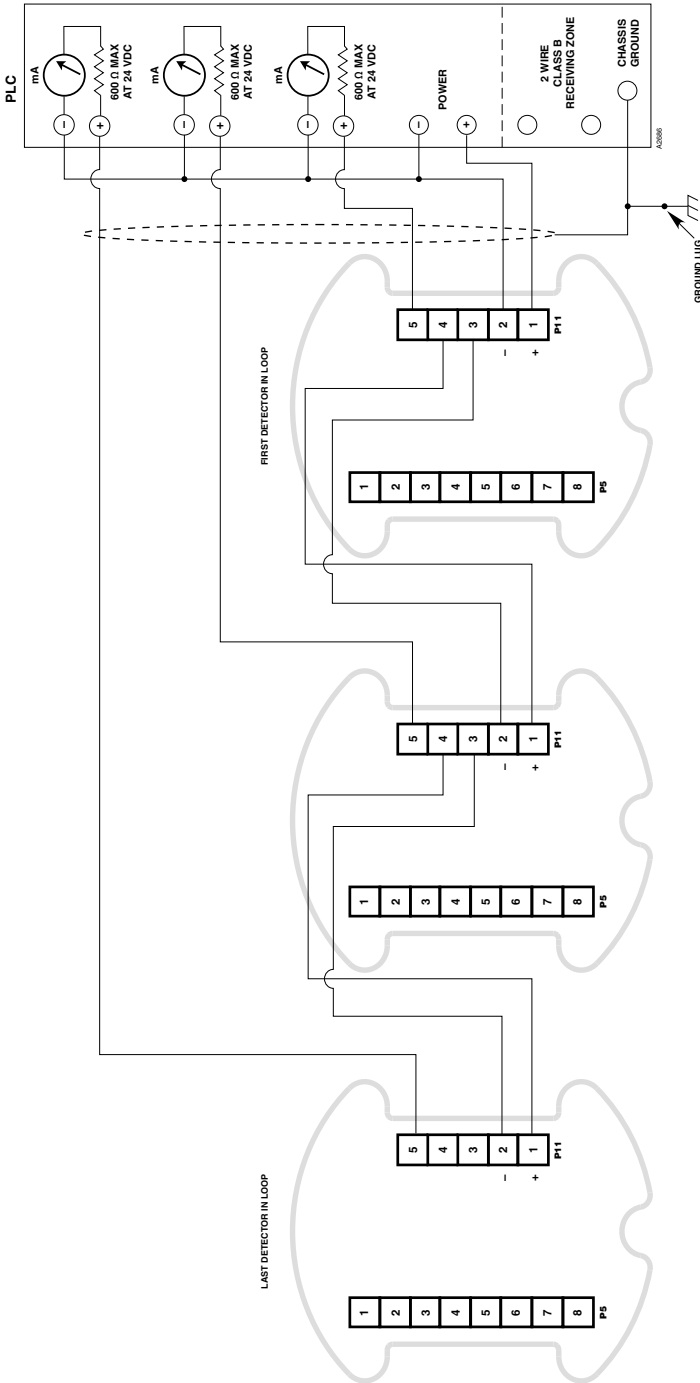

Figure 14—Multiple Detector Wiring (0-20 mA) used, Relays not used)
- Figures 14 and 15 show wiring for multiple detector configurations.